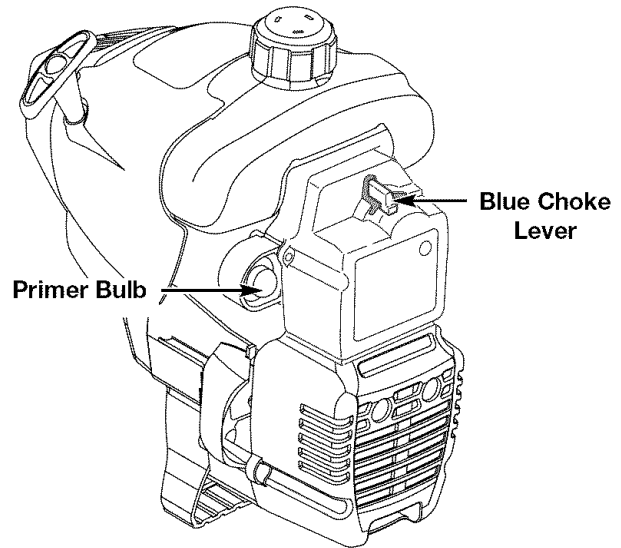

Fig. 7
2. Fully press and release the primer bulb 10 times, slowly. Some amount of fuel should be visible in the primer bulb and fuel lines (Fig. 7). If you can't see fuel in the bulb, press and release the bulb as many times as it takes before you can see fuel in it.
3. Place the blue choke lever in **Position 1** (Fig. 7).
5. Place the blue choke lever in **Position 2** (Fig. 7).
8. Place the blue choke lever in **Position 3** (Fig. 7). The unit is ready for use.